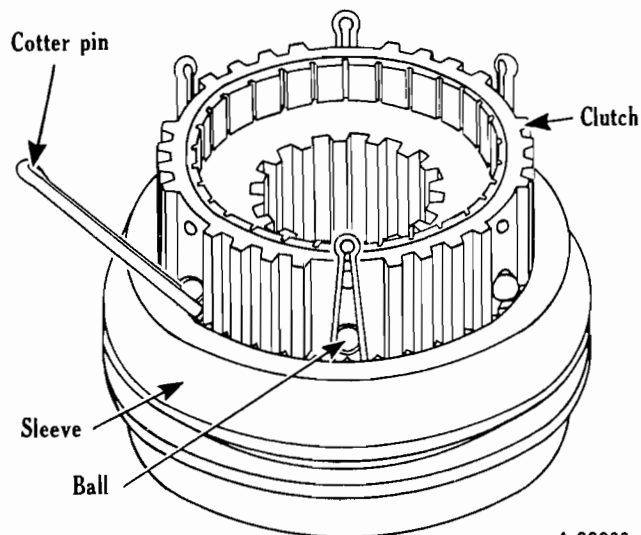

Fig. 4
- (b) To reassemble, insert clutch partially in sleeve and install springs and balls. Then insert cotter pins (1/8 x 2") having the ends spread slightly as shown in Fig. 4. The cotter pins, when pressed between the splines, force the balls into the clutch and after clutch is pressed into sleeve, cotter pins can be removed.